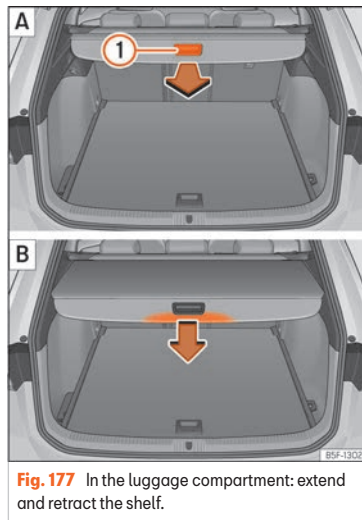

Fig. 177 In the luggage compartment: extend and retract the shelf.
- Pull evenly on the rear shelf using its handle »» Fig. 177 ① in a backwards direction until it audibly clicks into place.
- Press on the handle of the rear shelf in the direction of the arrow to release it »» Fig. 177 B. The shelf will automatically move towards the end and will retract completely.